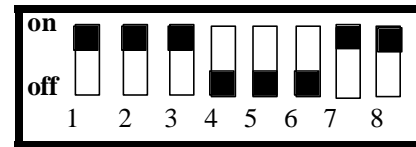

Figure 1.1
Please check the switches on your DB200 Sensor before installing. Do not change switches 1-6 these are pre set. It's very important that the switch settings on both units match. See figure 1.1 on back side for settings.
- 2) Check that dip switch settings 1-6 match both the sensor and the signaler as shown in figure 1.1 above.